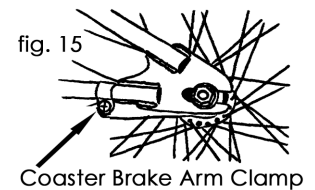

fig. 15
a. Disengage the coaster brake arm from its frame bracket (see fig. 15).
d. Secure the coaster brake arm to its frame bracket (see fig. 15), but do not fully tighten the securing nut and bolt.